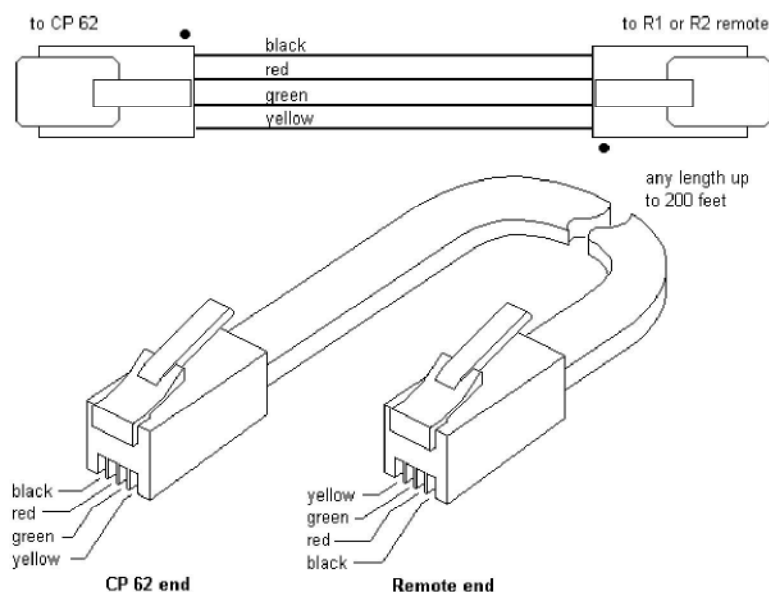

Figure 4. Remote connector wiring
2. Install a modular handset connector on each end of the telephone cable, taking note of wire colors as shown in Figure 4. Special crimp hand tools and the connectors may be purchased at commercial telephone supply outlets. This tool is different than standard telephone modular line types.